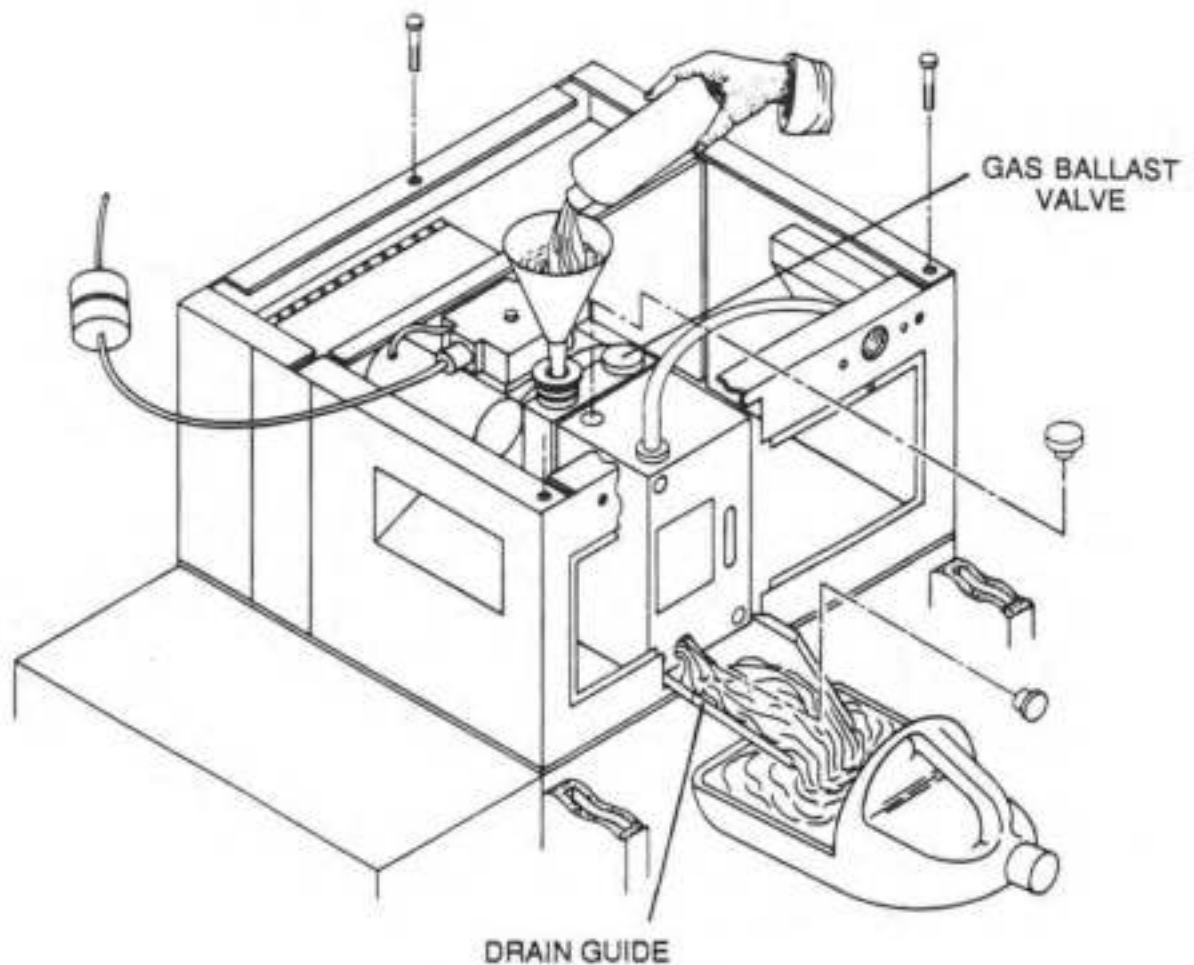

Figure 5-1. Fore Pump Flush and Oil Change
- 4 Use the forepump drain guide (provided near the forepump) to guide the oil away from the leak detector and into the drain pan (see Figure 5-1).
a) Fore pump flush and oil change (See Figure 5-1)
- 6 Remove three screws to separate the basic module from the pump modules. See Figure 5-1.
- 2 Open the gas ballast valve on the pump by turning it counter-clockwise. See Figures 5-1 and 5-2 for the location of the valves on the each pump.
- 3 Run the leak detector for 30 minutes then close the gas ballast valve (1). This procedure should evaporate most of the moisture which is mixed with the oil. (This may produce undesirable oil vapors in a closed room; exhaust these vapors outdoors if possible). If it does not evaporate the moisture, change the oil.